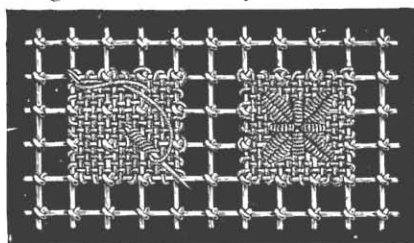

Fig. 38. Floweret in dot stitch on linen ground.
**Floweret in dot stitch on a linen ground** (fig. 38). — With the help of dot stitch a great variety of supplementary details and ornaments can be produced on a foundation of linen stitches.